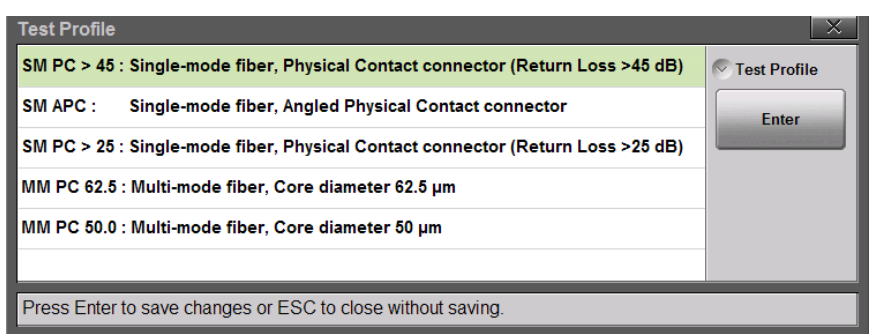
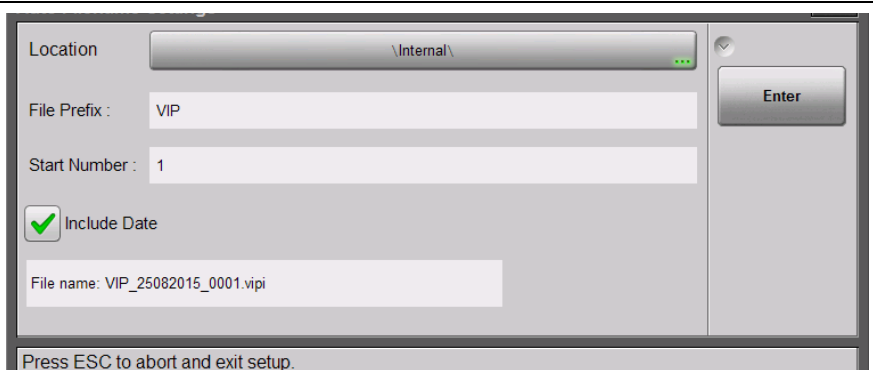

Figure 15-3. VIP Test Profile Selection Box
Figure 15-4. Auto Filename Settings Dialog
6. Press the **Auto Filename Settings** submenu key to open the dialog box shown in Figure 15-4. Press the **Location** bar to change the save location. To edit the file prefix or the starting number, press the appropriate text box. You may also include the current date.
<p>Probe Model: This submenu key shows the currently selected probe model. Press the key to display the list of supported VIP models from which you can select.</p> <p>Tip Type: Press this submenu key to display the Tip Type selection box. Use the rotary knob or the Up/Down arrow keys to highlight the appropriate probe tip, then press Enter to save the setting. See Table 15-1 on page 15-3 for a list and description of possible selections.</p> <p>To close the Tip Type dialog without making a change, press the Esc key.</p> <p>Test Profile: Press this submenu key to select a profile that matches the type of fiber being tested. Use the rotary knob or the Up/Down arrow keys to highlight the appropriate probe tip, then press Enter to save the setting. See Figure 15-3 on page 15-5.</p> <p>Auto Analyze On/Off: When set to On, the fiber endface image is automatically analyzed following capture. Select Auto Analyze Off if you want to view the image before manually executing the analysis.</p> <p>Auto Filename On/Off: If Auto Filename is On, the file naming scheme currently defined in the Auto Filename Settings dialog is applied when you press the Save icon. With Auto Filename Off, pressing the Save icon opens the Save dialog the same way as pressing Save under the File menu would.</p> <p>Auto Filename Settings: Press this submenu key to open a dialog box where you can preset the location and name of files to be saved. See Figure 15-4 on page 15-5. You can define a prefix (VIP is the factory default) and set the starting number from which file numbering will increment. You may also choose to include the current date in the file name, in the format DDMMYYYY. For example:</p> <pre>VIP_0001.vipi VIP_21082015_0001.vipi</pre>